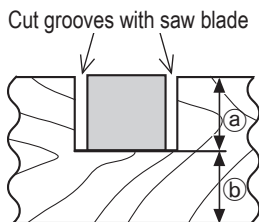

Fig. 44
Grooves in the workpiece can be cut as indicated in Fig. 44 by adjusting the 6 mm depth adjustment bolt.
- (2) Adjust to the desired cutting depth by setting the distance between the saw blade and the surface of the turntable (see ⑥ in Fig. 44).